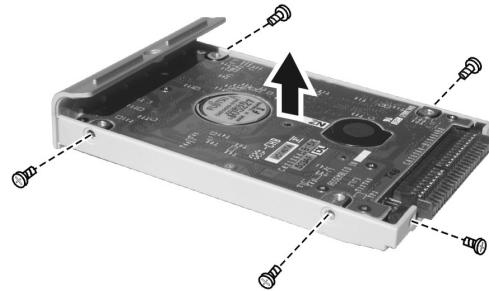

Figure 2-8
3. Remove five screws to separate the hard disk drive from the metal shield. (Figure 2-8)